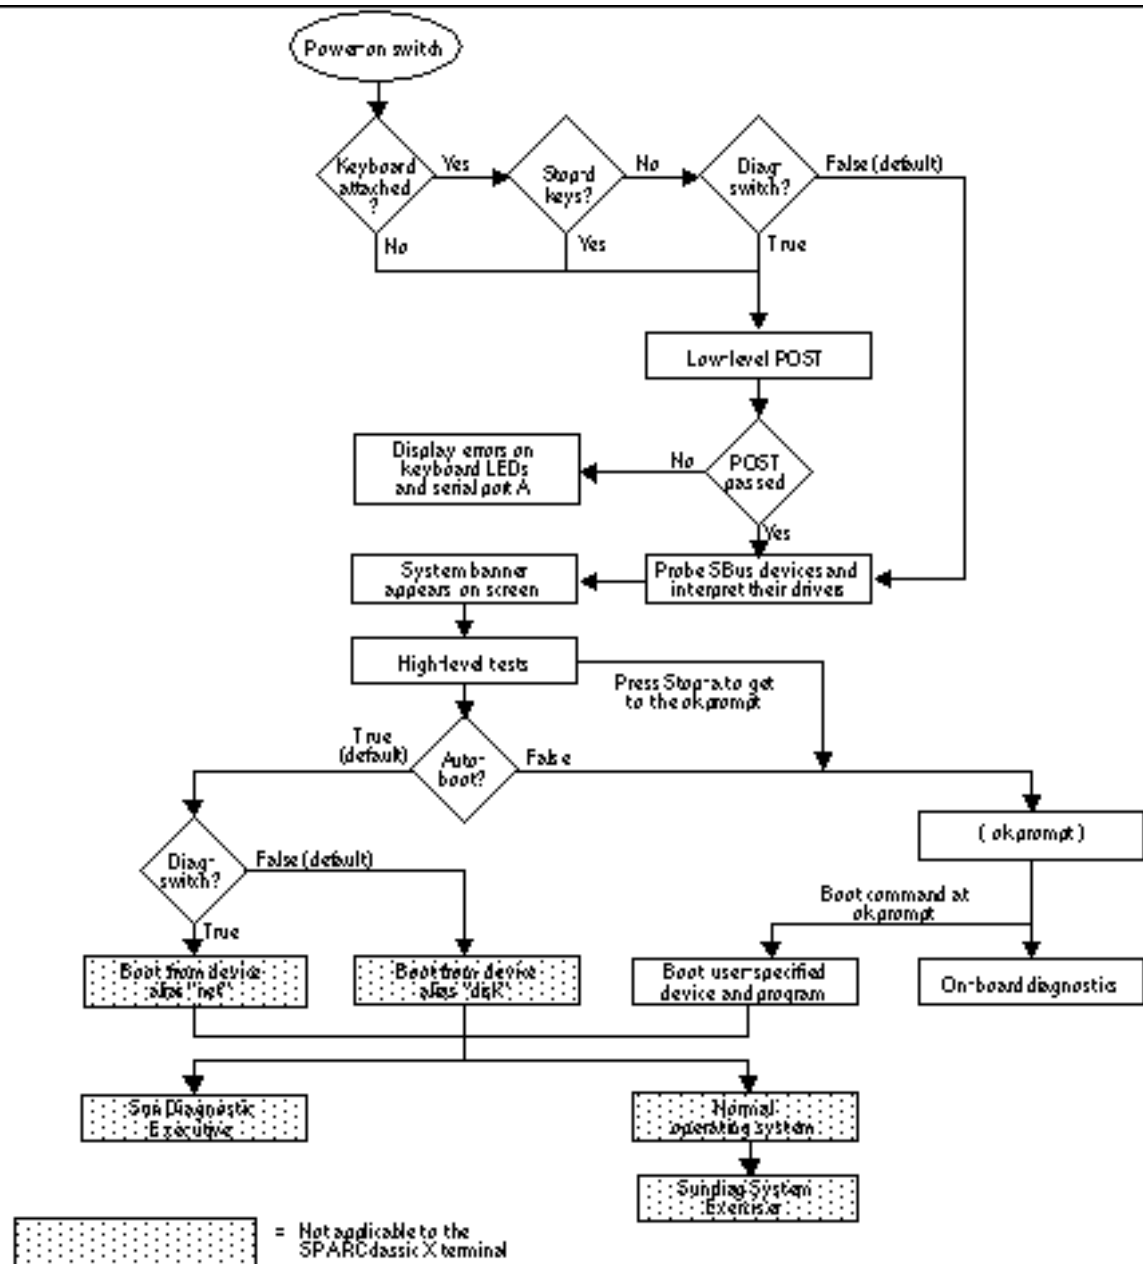

Figure 2-1 Default Boot Mode
The flowchart in Figure 2-1 outlines the roles played by various diagnostics during the default boot mode’s operation.
**Note** - The operating system diagnostic tools, as indicated in Figure 2-1, do not apply to the SPARCclassic X terminal.
The following sections describe the relationship between the various diagnostic tools and the role each tool plays during the default boot mode. A graphical depiction is provided by the flowchart in Figure 2-1. The figure shows the path followed in processing for the default boot mode, and where in the sequence other diagnostic tests are available or are encountered. These descriptions assume you are using a graphics monitor to view test results.